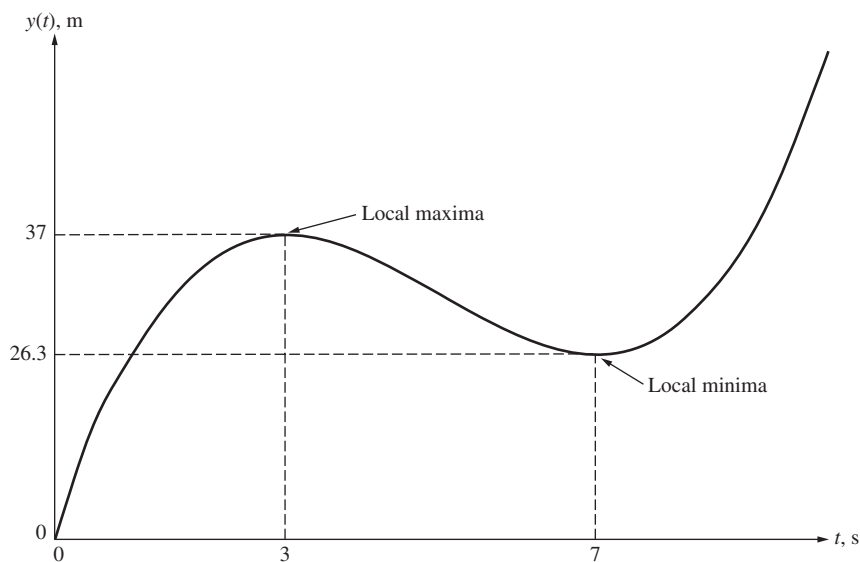

Figure 8.13 The approximate sketch of the position $y(t)$ of example 8-2.
- (b) The results of part (a) can be used to sketch the graph of the position $y(t)$. It was shown in part (a) that the velocity of the particle is zero at $t = 3$ s and $t = 7$ s. Since the velocity is the derivative of the position, the derivative of the position at $t = 3$ s and $t = 7$ s is zero (i.e., the slope is zero). What this means is that the position $y(t)$ has a local minimum or maximum at $t = 3$ s and $t = 7$ s. To check whether $y(t)$ has a local minimum or maximum, the second derivative (acceleration) test is applied. Since the acceleration at $t = 3$ s is negative ($a(3) = -4 \text{ m/s}^2$), the position $y(3) = 37$ m is a local maximum. Since the acceleration at $t = 7$ s is positive ($a(7) = 4 \text{ m/s}^2$), the position $y(7) = 26.3$ m is a local minimum. This information, along with the positions of the particle at $t = 0$ ($y(0) = 10$ m) and $t = 9$ ($y(9) = 37$ m), can be used to sketch the position $y(t)$, as shown in Fig. 8.13.